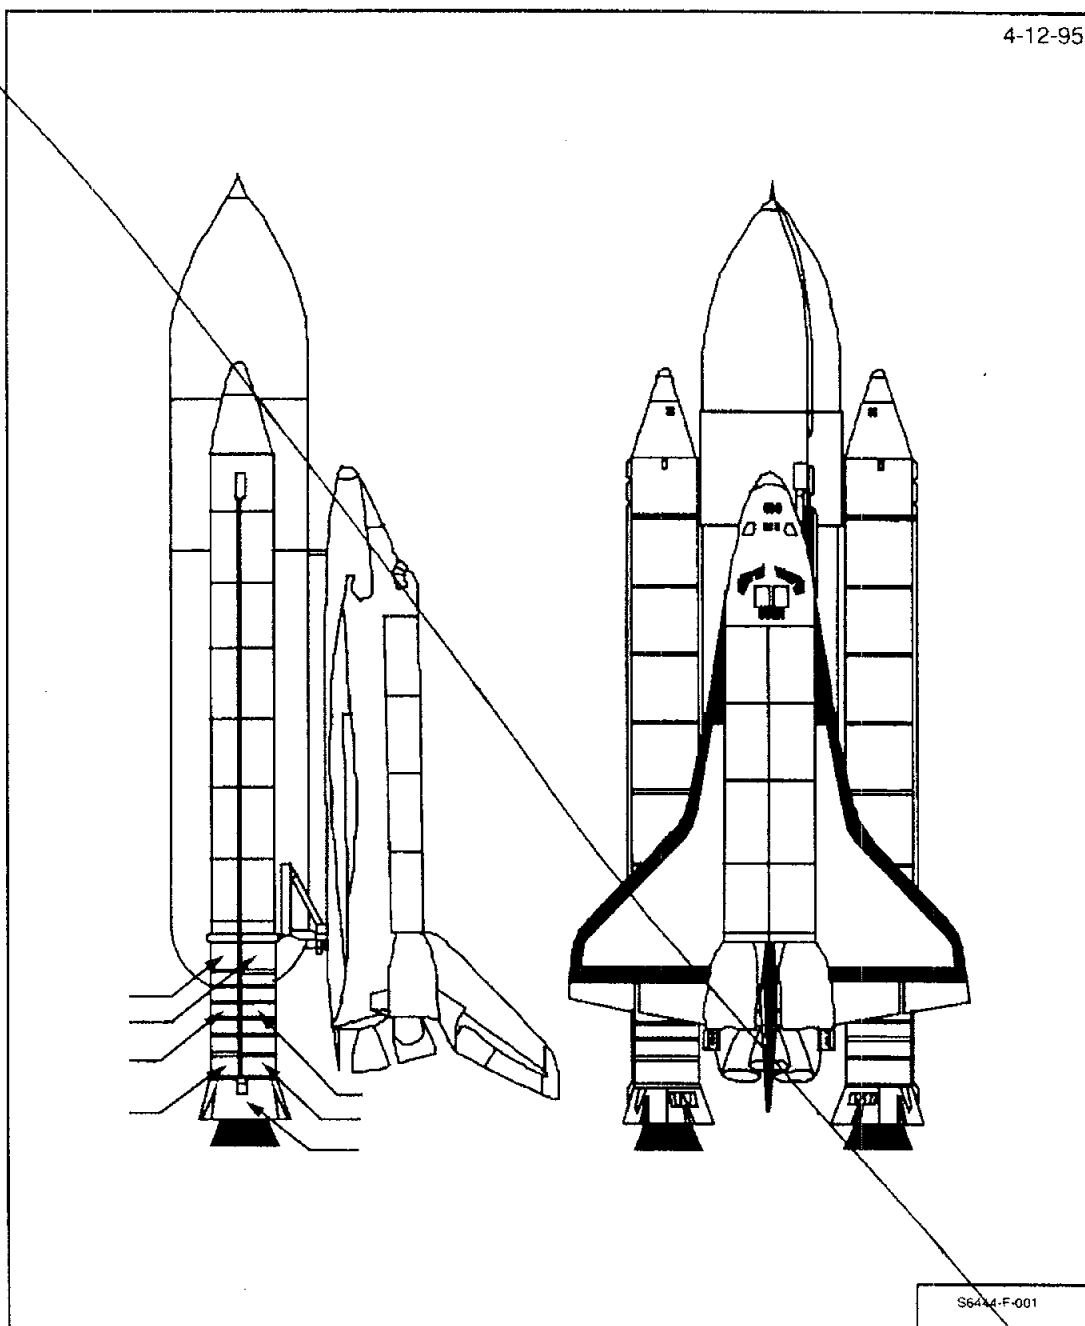

Figure 80-1: Deck (0) Level
3. See Figures 80-1 through 80-4, **measure and record** (deg F) SSV external surface temperatures using IR gun(s)/scanners.